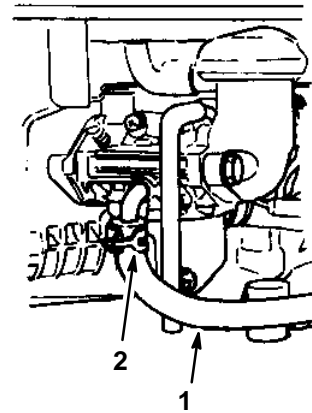

Figure 12
4. Remove the fuel tube by loosening the tube clamp at the carburetor (Fig. 12).
8. Remove the fuel filter from the fuel tank (Fig. 12).